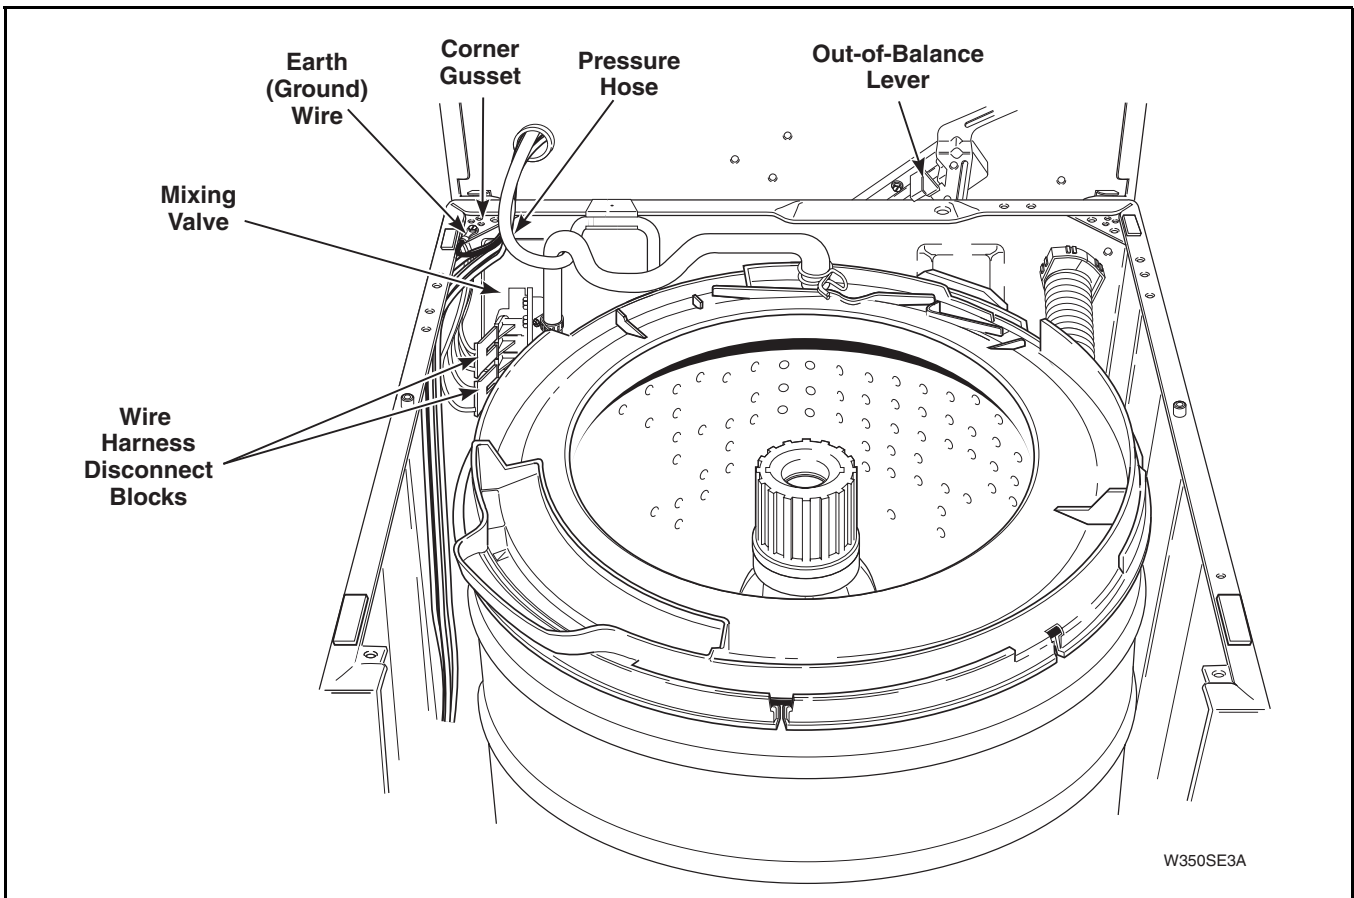

Figure 28
IMPORTANT: Before lowering cabinet top into position, pivot outer tub forward far enough to prevent damaging (bending) the out-of-balance switch lever. Refer to *Figure 28*.
- h. Pull top forward far enough to permit disconnecting earth (ground) wires from top left rear corner gusset of washer cabinet. Refer to *Figure 28*.
- i. Disconnect wires from mixing valve solenoids at quick disconnect blocks. Refer to *Figure 28*.